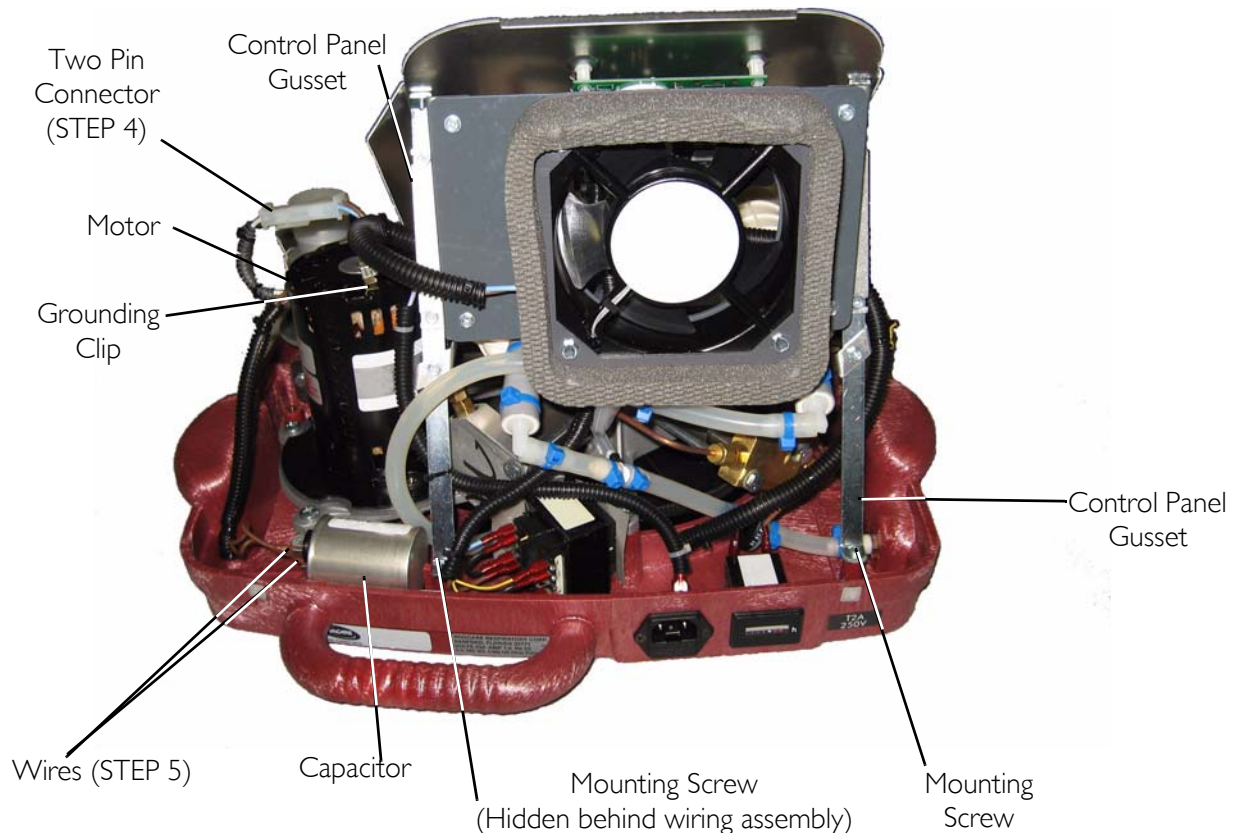
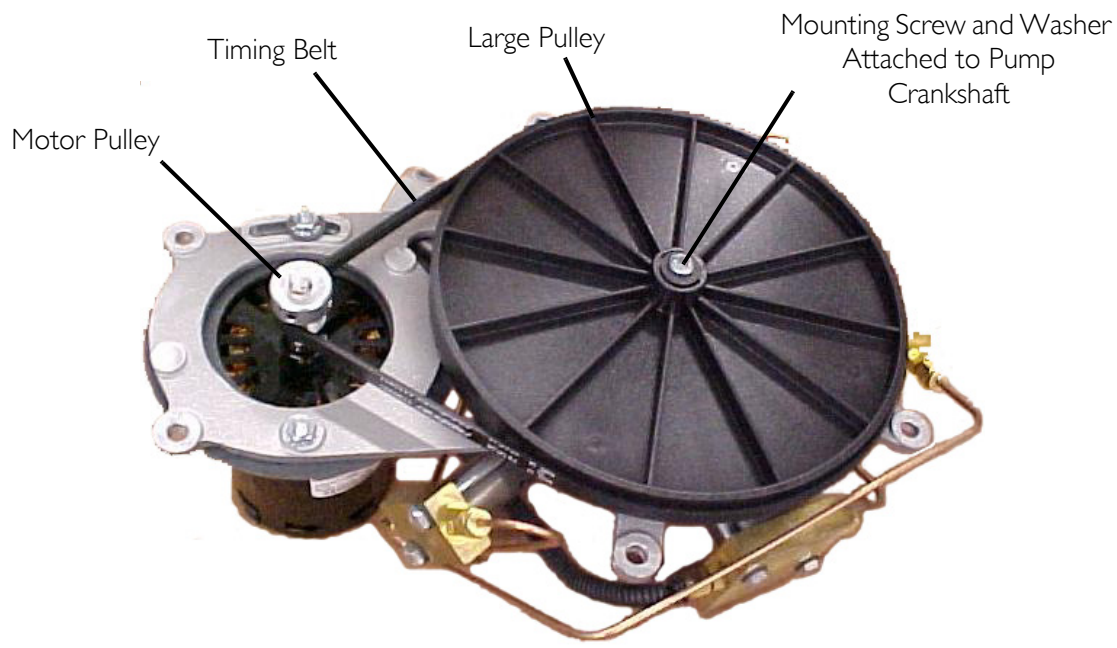

FIGURE 11.1 Belt and Pulley Upgrade
FIGURE 11.8 Belt and Pulley Upgrade
NOTE: For this procedure, refer to FIGURE 11.1 through FIGURE 11.8.
5. Disconnect the two pin connector that connects the motor to the wiring harness (FIGURE 11.1).
6. Using needle nose pliers, disconnect the two wires from the capacitor (FIGURE 11.1).
7. Using needle nose pliers, disconnect the grounding clip from the motor (FIGURE 11.1).
- Remove the two screws that secure the control panel gussets to the rear of the base assembly (FIGURE 11.1).
10. Press the new large pulley onto the pump crankshaft (FIGURE 11.8).
11. Install the mounting screw and washer onto the pump crankshaft to secure the large pulley in place. Torque to 25-30 in-lbs (2.82-3.39 Nm) (FIGURE 11.8).
12. Install the new timing belt over the large pulley and motor pulley (FIGURE 11.8).
13. Turn the large pulley and ensure the timing belt is tracking properly across both pulleys (FIGURE 11.8).
25. Secure the control panel gussets to the rear of the base assembly with two mounting screws (FIGURE 11.1).
29. Connect the grounding clip to the motor (FIGURE 11.1).
30. Connect the two wires to the capacitor (FIGURE 11.1).
31. Connect the two pin connector that connects the motor to the wiring harness (FIGURE 11.1).